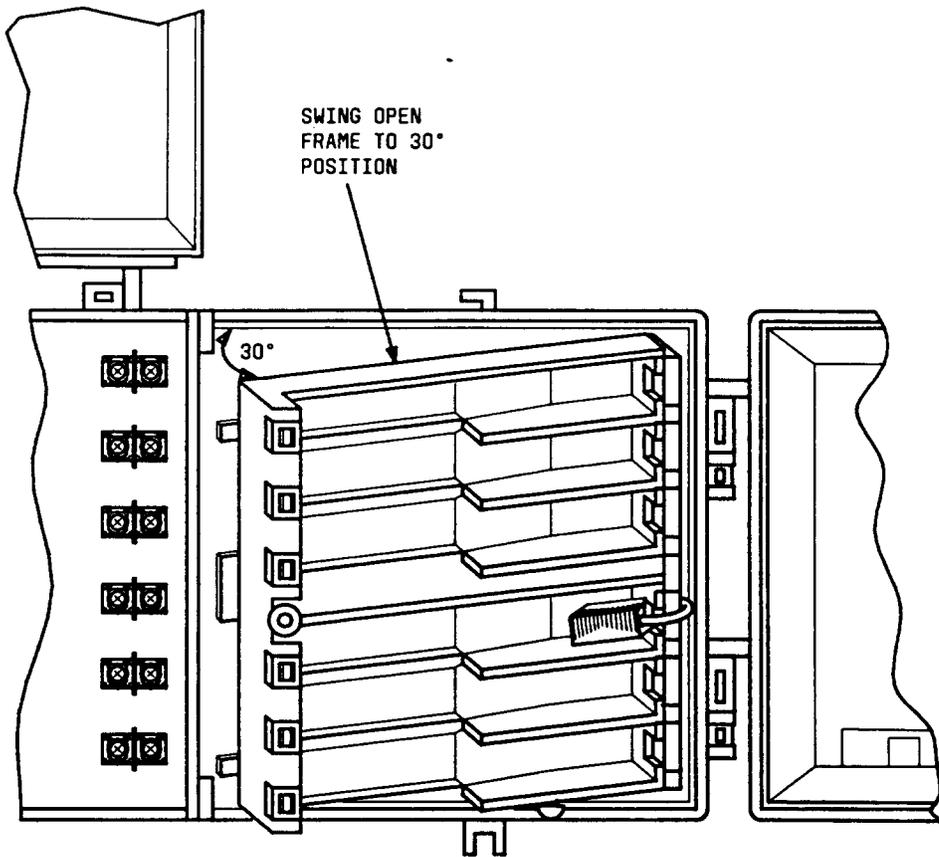

Fig. 20—Security Frame Lifted to a 30-Degree Position
- (2) Swing open security frame to approximately a 30-degree position as shown in Fig. 20.